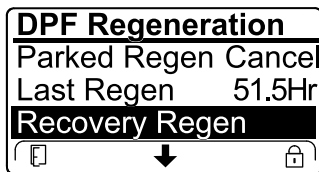

Figure 52
- If the engine computer has not requested a recovery regeneration and you scroll down to the RECOVERY REGEN option, the recovery regeneration locks and the lock icon (Figure 52) appears in the lower right corner of the InfoCenter.